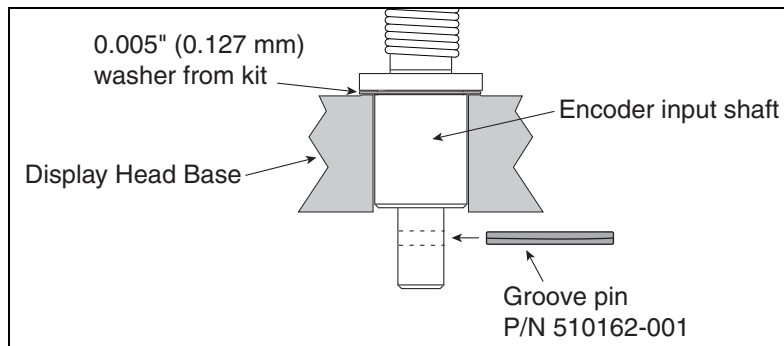

Figure B-4. Securing Encoder Input Shaft In EMR4 Base
6. From the underside of the Display Head, insert the groove pin from the kit into the hole in the input shaft to secure it in base of the unit (Figure B-4).